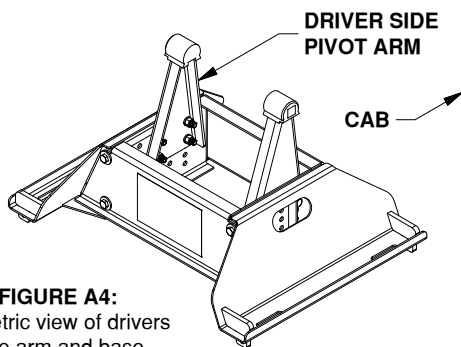

FIGURE A4:
- Install the clip assembly.** Remove the 5th Wheel head and saddle from the base. Next, locate the driver side Arm and the flange closest to the truck cab, see diagram A3. The clip should be placed so that when the spring's coil is centered in line with the edge of the arm there is 1/2" of clearance between the bottom of the rubber bumper and the top of the spring, see figure A4. Drive the clip securely onto the flange with a hammer. Replace the head and Saddle.